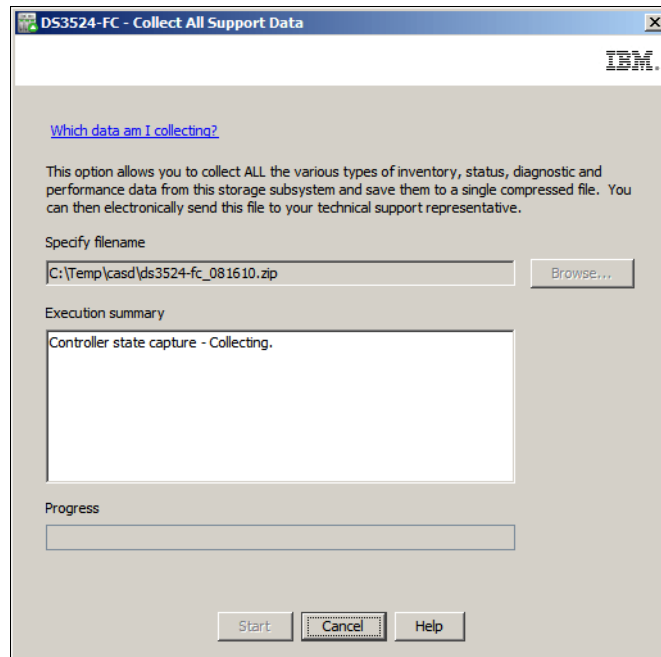

Figure 14-5 Collect All Support Data - click the Start button to begin the data collection
2. Click the **Start** button to begin the data collection as shown in Figure 14-5 on page 333.